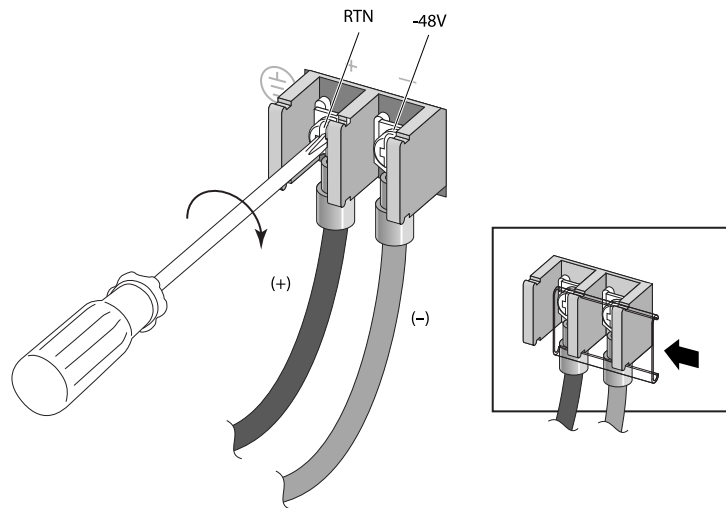

Figure 291: Connecting the DC Power Cables: Part 2
- d. Tighten both screws on the terminal block to 15.9 in-lb (1.8 N-m) as shown in Figure 291.